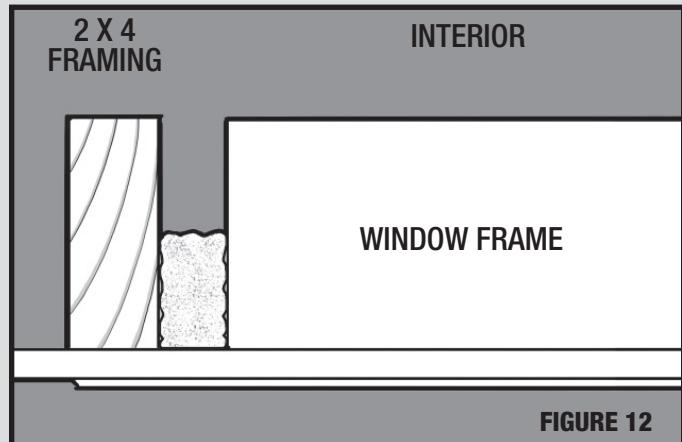

FIGURE 12
6.5.1. Apply foam to a depth of approximately 1/2 of the depth of the cavity between the window frame and the rough opening. (Figure 12)